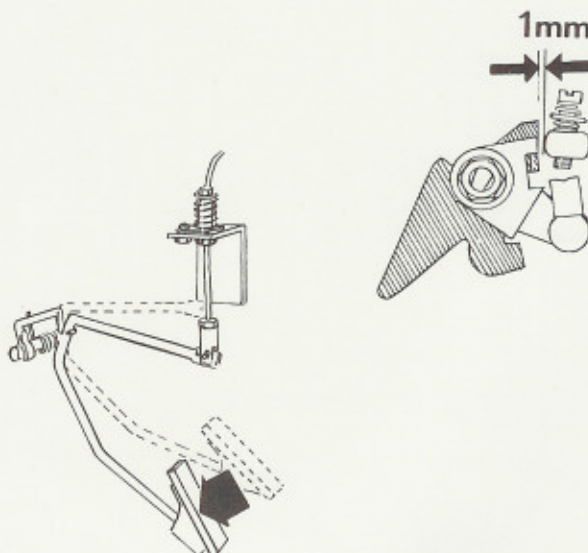

Fig. 27-3. Adjusting throttle wire
2. Depress the accelerator pedal fully and adjust the throttle wire so that there is a clearance of 1 mm (0.039") at full throttle travel, see Fig. 27-3.